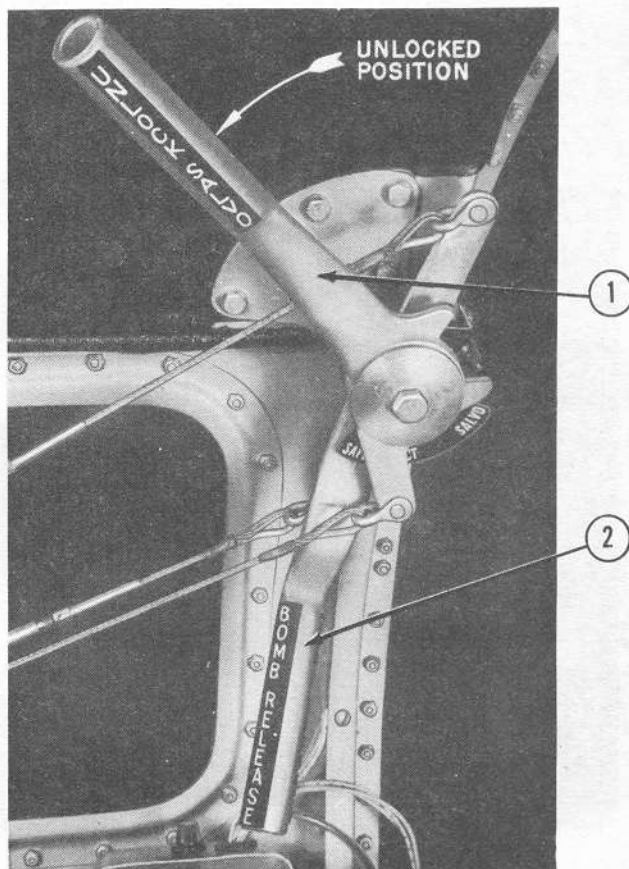

Figure 41—Bombardier's Bomb Release and Salvo Handle
(See figure 41.)
(a) Push bomb-release handle (figure 41) in bombardier's compartment forward to "SELECT" position.
1. Pull salvo-unlock handle back to "SALVO" position. This handle (figure 41), when in this position, opens bomb doors and disengages salvo-release safety catch.